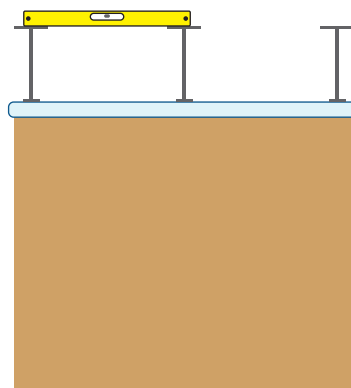

Figure 2
**4.** A level should be used to ensure the brackets remain level while tightening. Place level across the top plates of the brackets. Tightened screw by securing the nut with a wrench and turning the bolt with a screwdriver, (Figure 2).